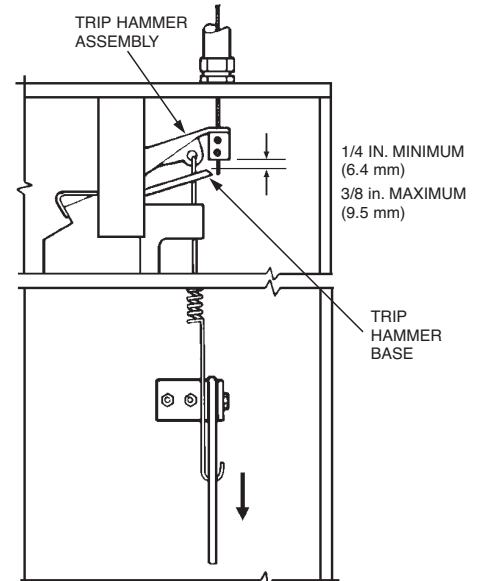

FIGURE 54
- ▶ 16. Lower tension lever to “DOWN” position and inspect the base of wire rope clamping device to make certain that there is a minimum of 1/4 in. (6.4 mm) and a maximum of 3/8 in. (9.5mm) clearance between the base of trip hammer assembly and cable lever assembly. See Figure 54. (If clearance is not between 1/4 in. (6.4 mm) or 3/8 in. (9.5 mm), raise tension lever, loosen set screws on locking clamp and repeat Steps 15 and 16.)